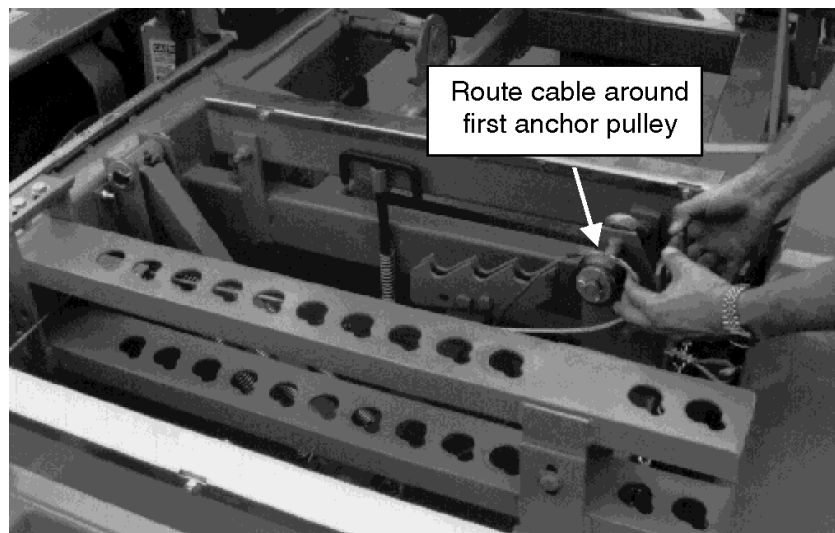

FIG. 1-4
2. Route the cable around the first anchor pulley as shown in FIG. 1-4.